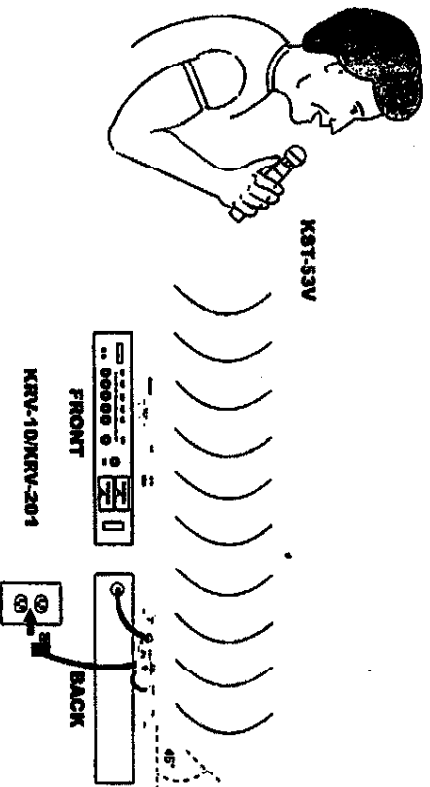

FIGURE 7
1. Refer to Figure 7. Connect the supplied ac power adapter into the DC INPUT connector in back of the receiver. Insert the adapter's cable into the power cable retainer. ("suit of KRV-10") Plug the adapter into a wall socket or other ac power source (use HD41N110 for 220VAC, 50Hz power, use HD41N110E for 120VAC, 60Hz power). Push the power switch on the face of the receiver, the red POWER light on the receiver will glow.